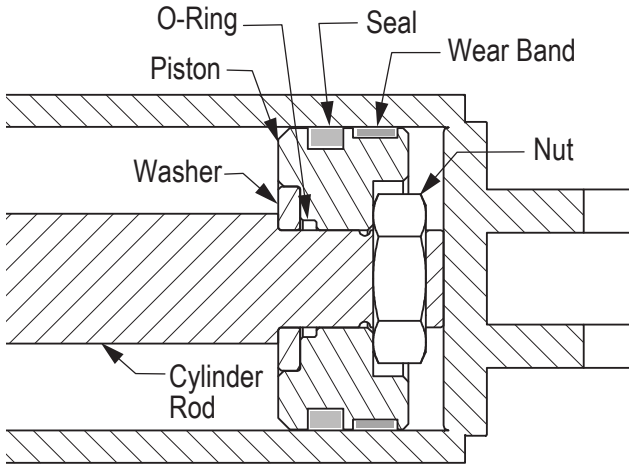

Figure 4-5, Piston Seal
2. Note the direction of the seal on the piston. Improper installation will result in poor performance. The cupped side or O-ring side of the seal should be facing the stuffing box. (Figure 4-5)